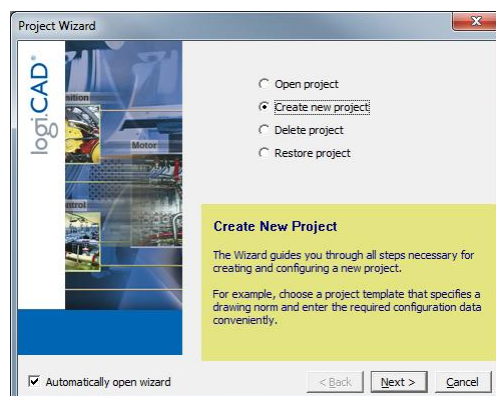

Figure 2: logiCAD project wizard
- The project wizard starts automatically as shown in Figure 2.